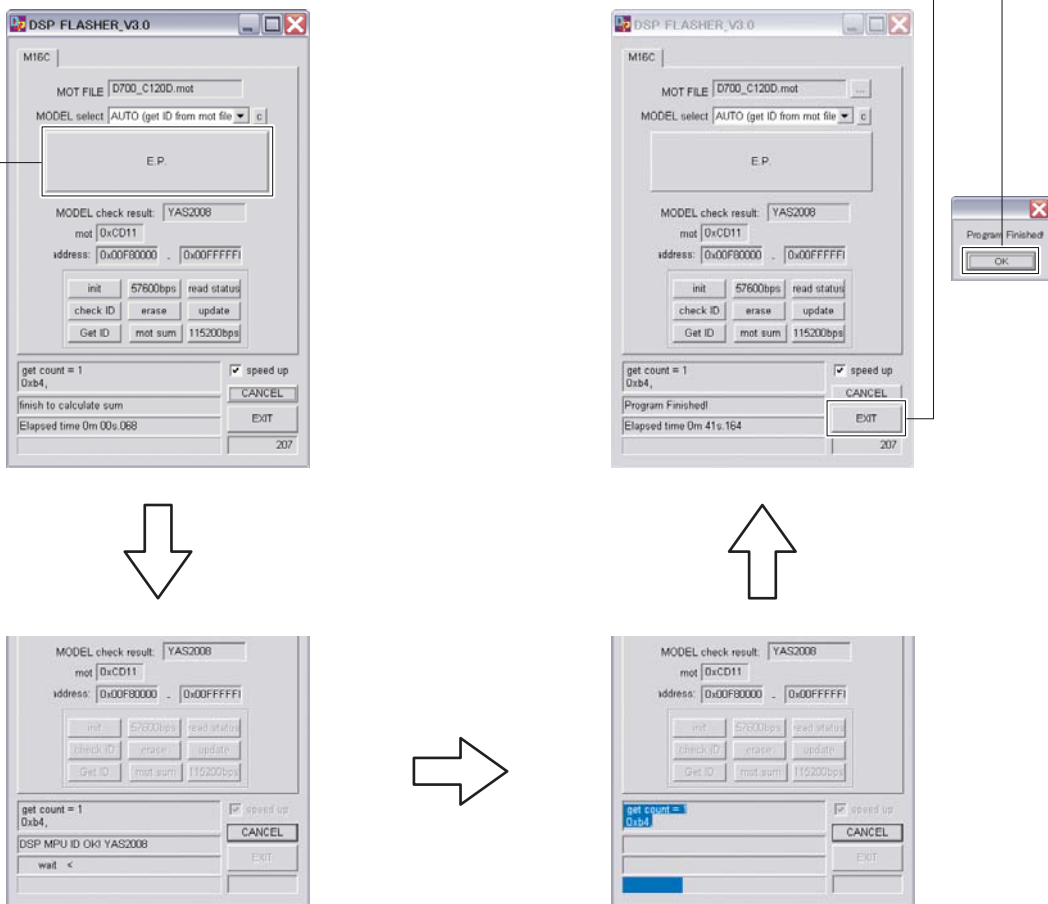

Fig. 2
4. Click [E.P.] to start writing. (Fig. 2)
5. When writing is completed, "Program Finished!" is displayed. (Fig. 2)
6. Click [EXIT] to end "DSP FLASHER_v3.0.exe". (Fig. 2)